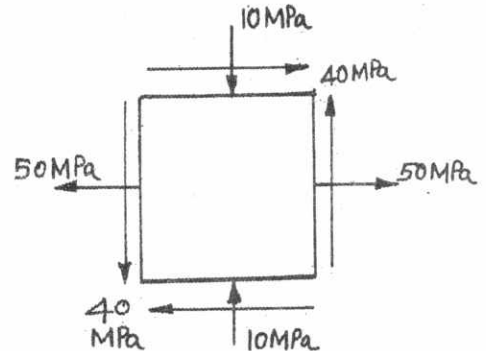

Fig.Q3
- 3 For the state of stress shown in Fig.Q3, determine: